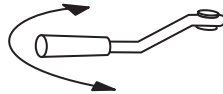

Figure 18. Paddle Shaft Rotation Lever
1. On the hydraulic valve, **push** the drive control lever (Figure 18) inward for **clockwise** mixing rotation of blades. For **counterclockwise** rotation, **pull** the drive control lever outward.